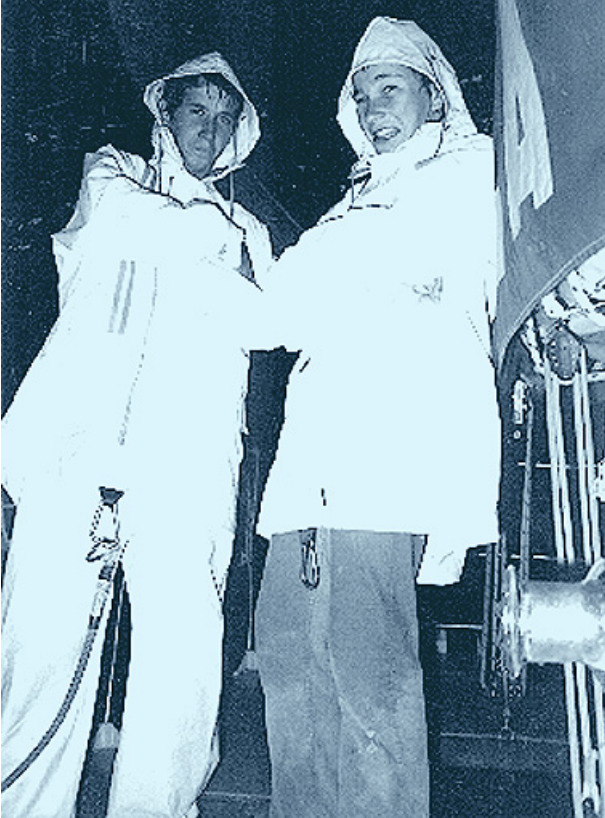

Figure 44.2 Shorts can be better than jeans.
4. Wear your PFD if at all practical. Close fitting PFDs such as the one shown in Figure 44.2, are ideal for inshore waters.